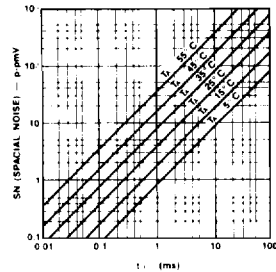

Fig. 5
- Spacial Noise is the peak-to-peak spacial variation (fixed pattern noise) in the device output after clocks have been stopped. It is usually caused by the variation of leakage current density in the shift registers. Spacial noise is a function of the clock stop period and temperature. See Figure 5.